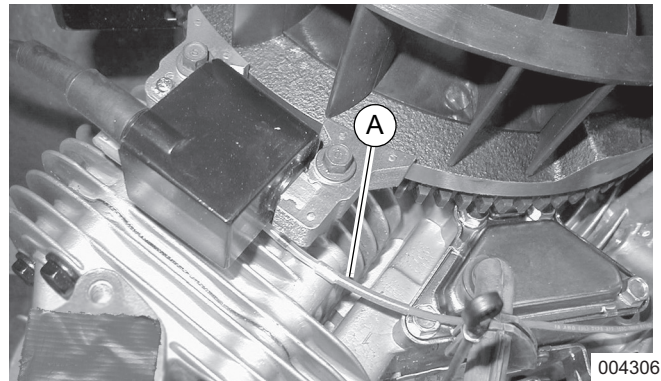

Figure 4-11. Install Ignition Coil
3. See Figure 4-11. Assemble ignition coil on engine, noting position of ground wire routing (A).